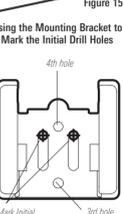

Figure 16
3. Continue to hold the bracket on the transom of the boat, and use a pencil or marker to mark where to drill the two mounting holes. Mark the drill holes near the top of each slot, making sure that your mark is centered in the slot (Figure 16).